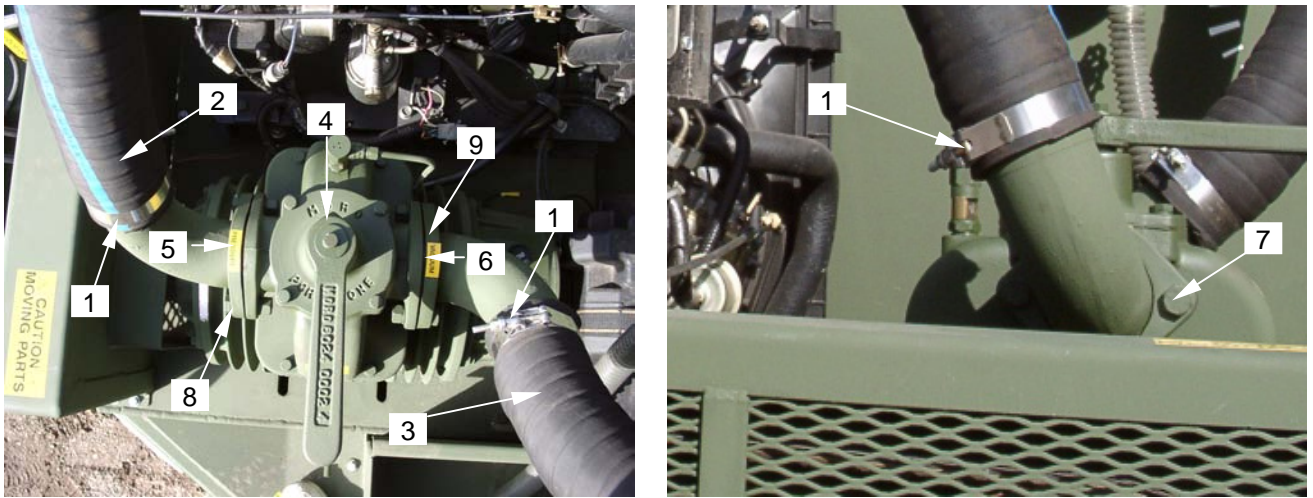

Figure 2. Servicing Vacuum Pump
3. Check hose clamps (**figure 2, item 1**) on breather hose (**figure 2, item 2**) and pump hose (**figure 2, item 3**). Tighten or replace the hose clamps as necessary.
4. Check handle (**figure 2, item 4**) for free movement from pressure (**figure 2, item 5**) to vacuum (**figure 2, item 6**) position.
5. Tighten bolts (**figure 2, item 7**) on breather port elbow (**figure 2, item 8**) and vacuum port elbow (**figure 2, item 9**).